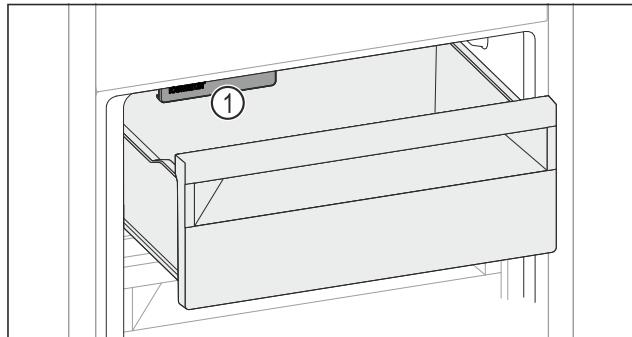

Fig. 165
▶ Pay attention to the IceMaker Fig. 165 (1).